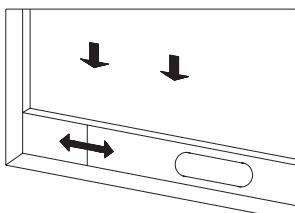
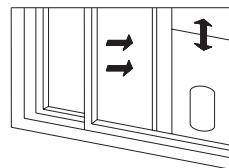

Figure 2.
Figure 3.
2. Half open the window, and mount the window sealing plate assembly to the window (as shown in Fig.2 and Fig.3). Components can be placed in horizontal and vertical direction.